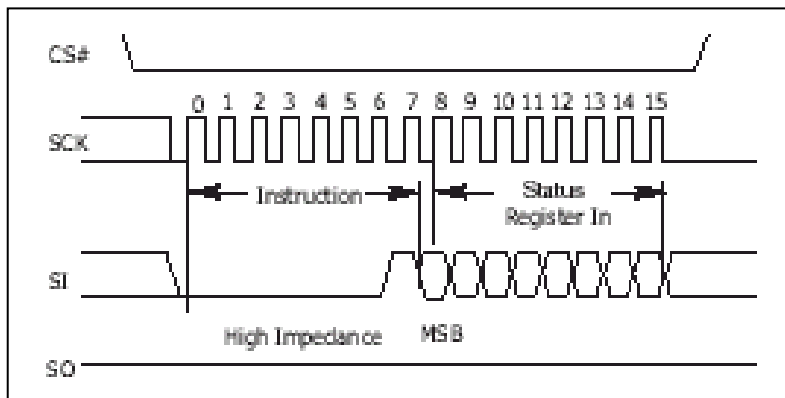

Figure 8 Write Status Register (WRSR) Instruction Sequence
The Write Status Register (WRSR) instruction allows new values to be written to the Status Register. Before it can be accepted, a Write Enable (WREN) instruction must previously have been executed. After the Write Enable (WREN) instruction has been decoded and executed, the device sets the Write Enable Latch (WEL). The Write Status Register (WRSR) instruction is entered by driving Chip Select (CS#) Low, followed by the instruction code (Figure 8) and the data byte on Serial Data Input (SI).